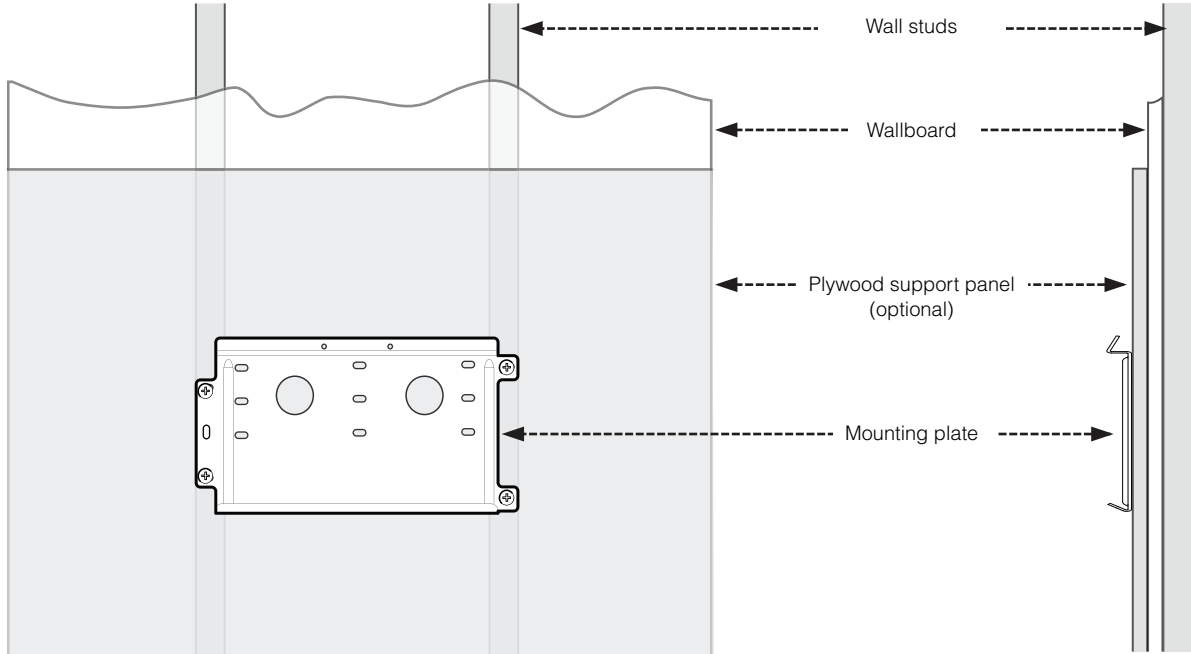

Figure 2-4 Mounting plate centered on wall studs
- Using a level, secure the first mounting bracket to the wall. Ensure the mounting plate is centered on the wall studs, as shown in Figure 2-4. Use recommended anchoring hardware to secure the plate (see Table 2-1).